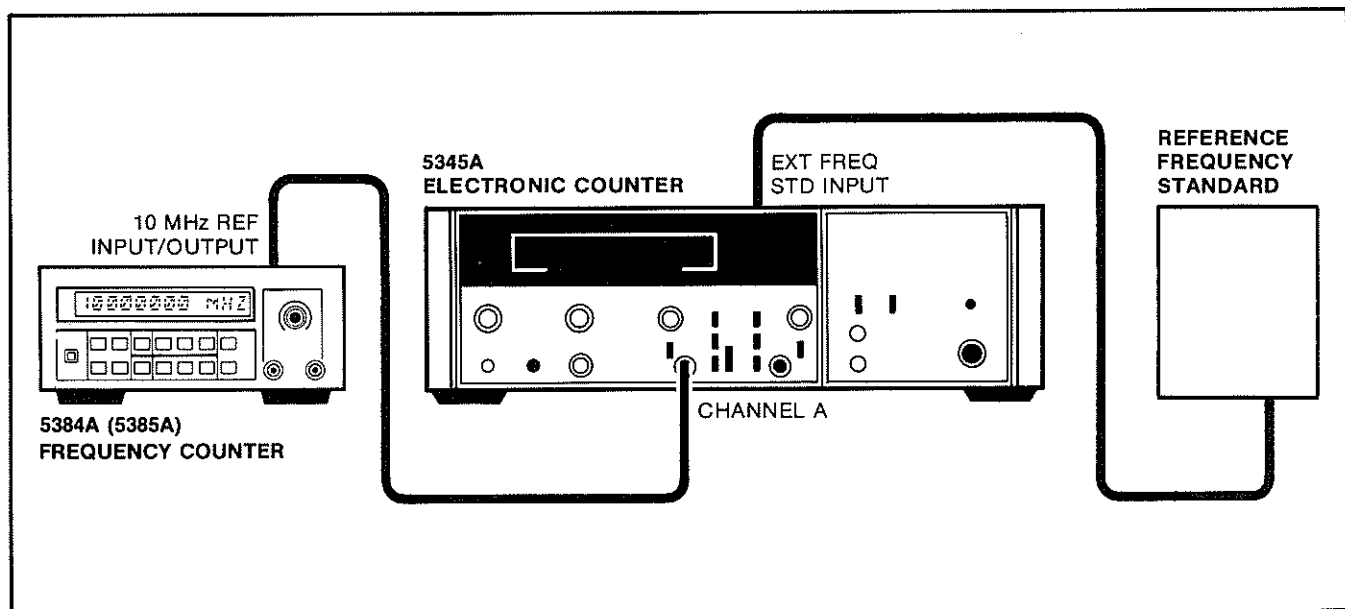

Figure 5-8. TCXO Offset Adjustment, 0° to 40°C
b. Connect a house standard (reference frequency) to the EXT FREQ STD INPUT of a high resolution counter such as an HP 5345A Electronic Counter, as shown in Figure 5-8.